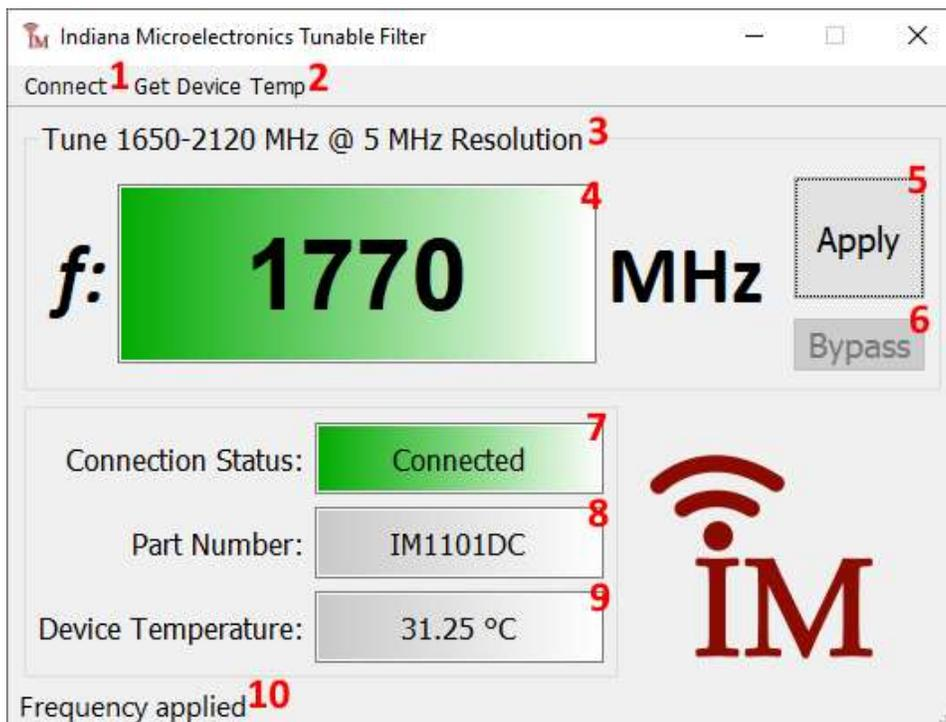
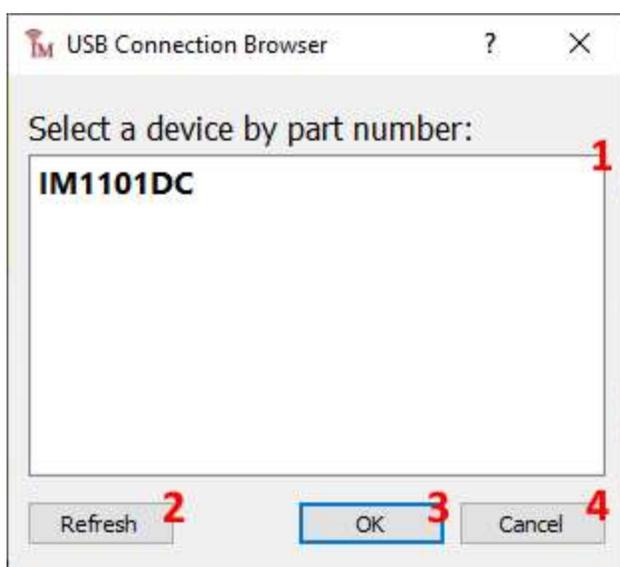

Figure 7. Tunable Filter Control Software
Figure 8. Control Software Connection Browser
The IM Tunable Filter Demo unit is provided with control software for ease of testing. To run, connect the filter and the provided USB thumb drive to the same Windows machine. Launch *TunableFilter.exe*. The user interface is detailed below in Figure 7 and Figure 8:
1. Frequencies between and including the listed bounds at the provided resolution interval are valid. For example, 1650, 1655, 1660, etc. as shown for the example device in Figure 7. Values within the bounds but outside of provided resolution (e.g. 1653) will be automatically rounded. Note that some devices have multiple ranges of valid tune states. Values between listed ranges are invalid.